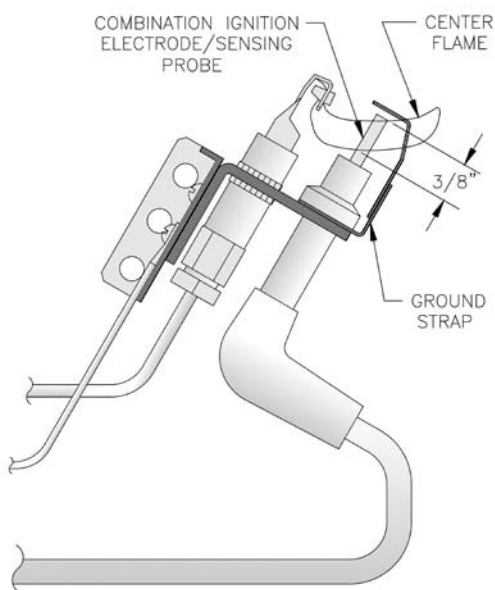

Figure 55: Pilot Burner Flame, Honeywell Q348
- c. Electronic Ignition (EI), Models IN3 through IN12. See Figure 55. Pilot should be lit only after completing Step 3. Pilot burner produces three (3) flames. Center flame should be steady, medium hard blue enveloping 3/8 to 1/2 inch of sensing probe.